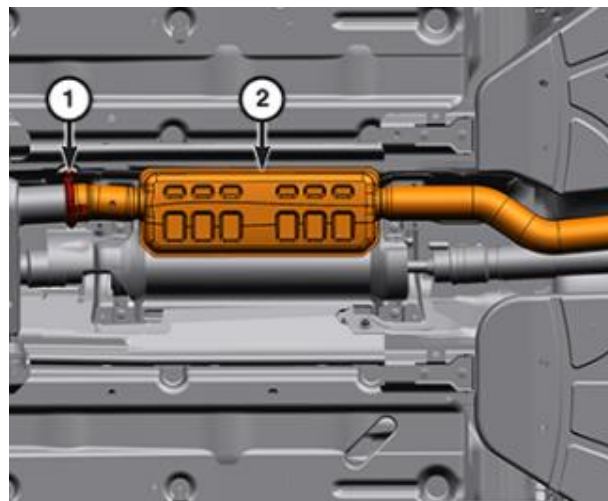

Figure 19 – Resonator
10. Loosen the exhaust resonator clamp nut and separate the exhaust crossunder pipe from the resonator (Figure 19).
19. Connect the exhaust crossunder pipe to the resonator and tighten the clamp to 25 N·m (18 ft. lbs.) (Figure 19).